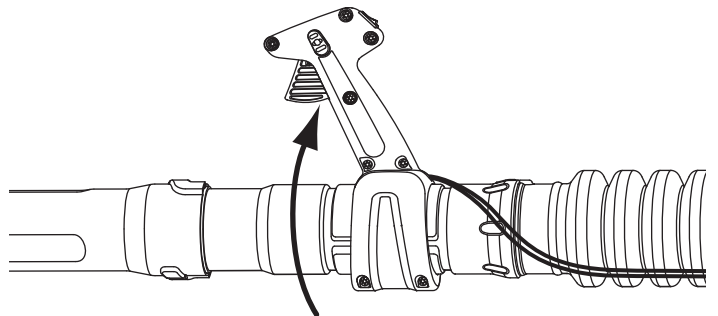

Fig. 9
3. Align the throttle grip with the slot closest to the comfortable place and rotate the throttle grip clockwise into the upright position (Fig. 9).